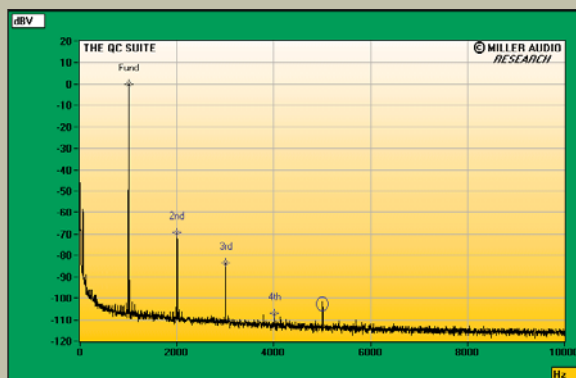
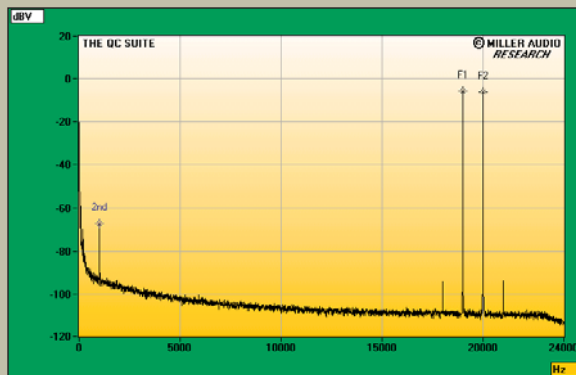

Fig. 2 EAR 912, MM mode, spectrum of 1kHz sinewave, DC-1kHz, at 1V into 8k ohms (linear frequency scale).
Fig. 3 EAR 912, MM mode, HF intermodulation spectrum, DC-24kHz, 19+20kHz at 1V into 8k ohms (linear frequency scale).
gins were acceptable at the lowest gain setting, ranging from 10dB at 20Hz and 20kHz to 21 dB at 1kHz (all figures ref. 1kHz at 5mV). Each 6dB increase in gain, however, reduced the margin by the same 6dB. Owners of the 912 should set the phono-stage gain to the lowest level acceptable with their preferred cartridge. But with its gain set appropriately, the 912 offers quite low levels of both harmonic distortion (fig.2) and intermodulation distortion (fig.3).